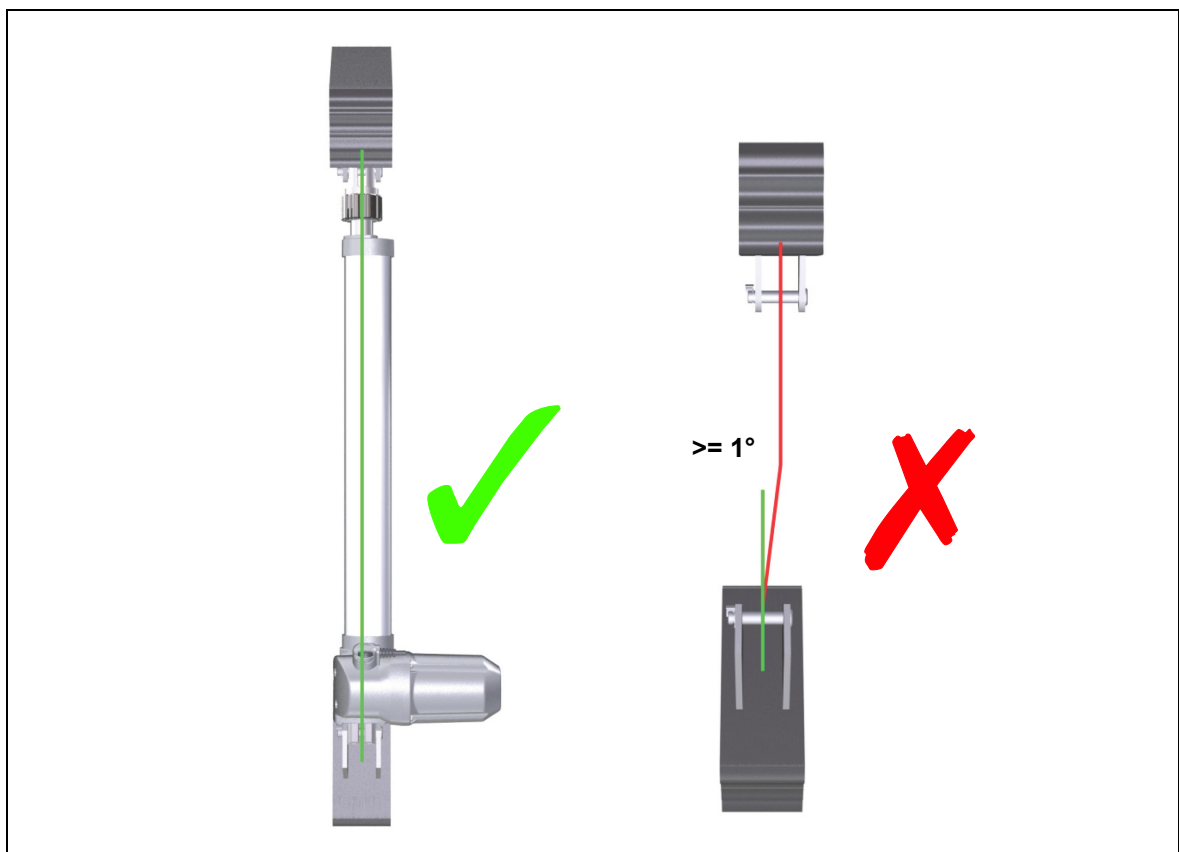

Figure 21 Position and alignment of the bracket on the lifter release (LR)
The support brackets for the clevis support at the lifter release (LR) must be properly aligned (refer to Figure 21). If they do not line up, additional lateral (shear) forces will be exerted on the drive unit. If the brackets are out of alignment by only one degree, the release forces can increase significantly. Ideally the brackets should be fitted at almost zero degrees alignment.